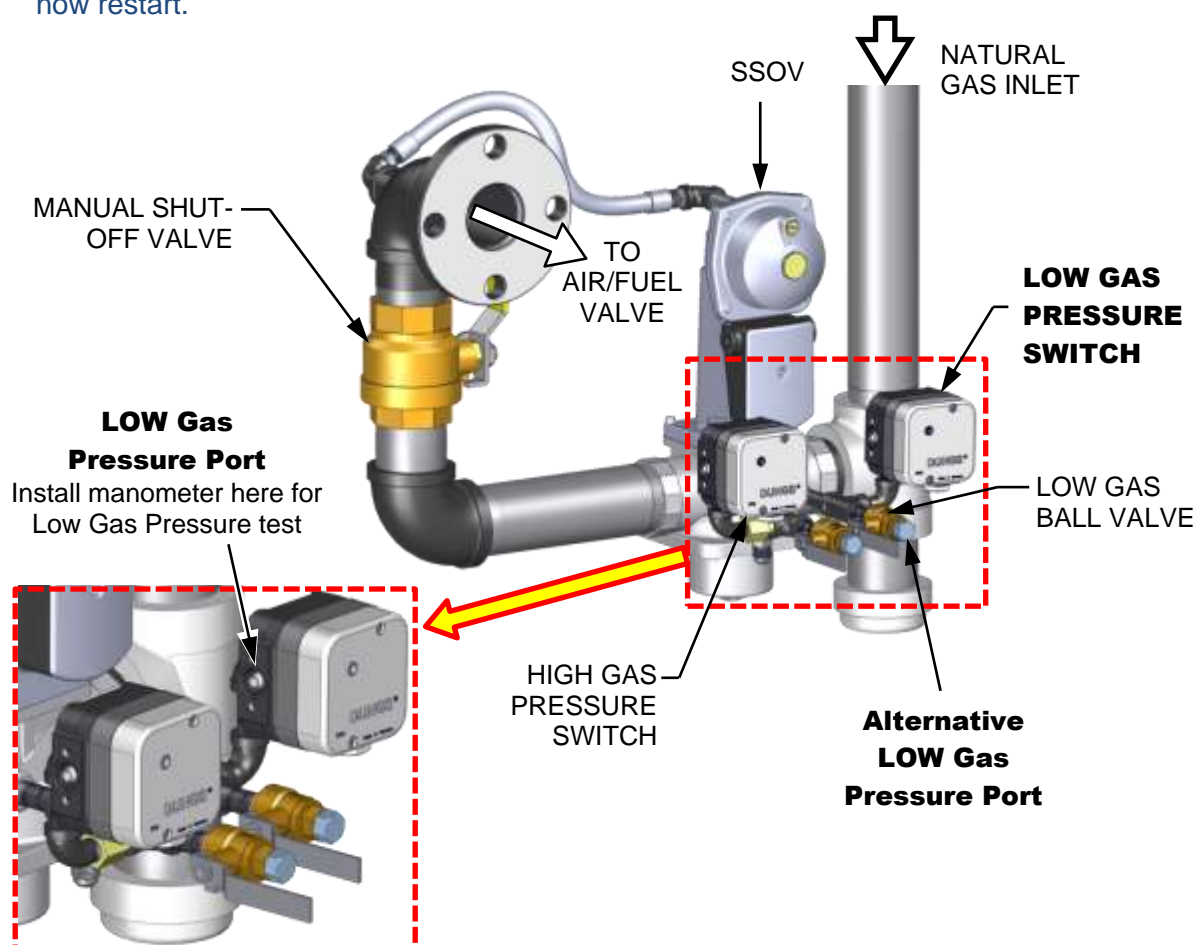

Figure 5-2: BMK 3000 LOW and HIGH Gas Pressure Test Components
To simulate a low gas pressure fault on BMK 3000 units, refer to Figure 5-2, below, and perform the following steps:
2. Locate the port on the top of the Low Gas Pressure switch (see Figure 5-2, below) and loosen the screw inside a few turns to open it. Do not remove this screw completely. Alternatively, you can remove the 1/4 inch plug shown in Figure 5-2 and install a hose barb fitting in that location.